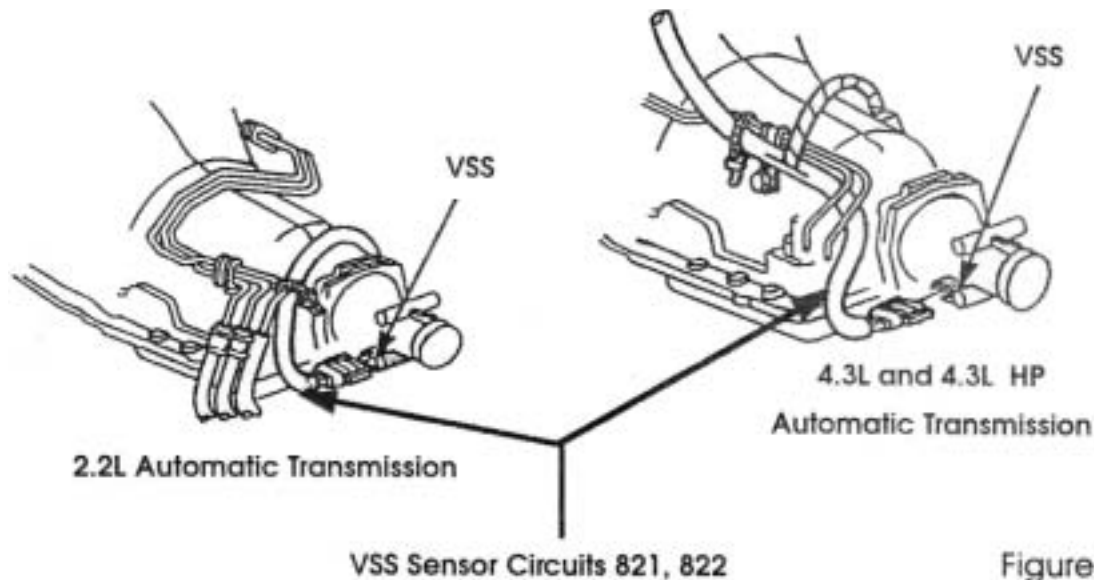

Figure 4
- Circuit 821 or 822 shorted to ground at the metal bracket below the distributor or as it crosses the top of the bellhousing (figure 4).
- Circuits 821 or 822 shorted to ground at the top of the bellhousing on one of the *P* style mounting clips or at one of the studs that are protruding from the cowl area (figure 4, page 12)